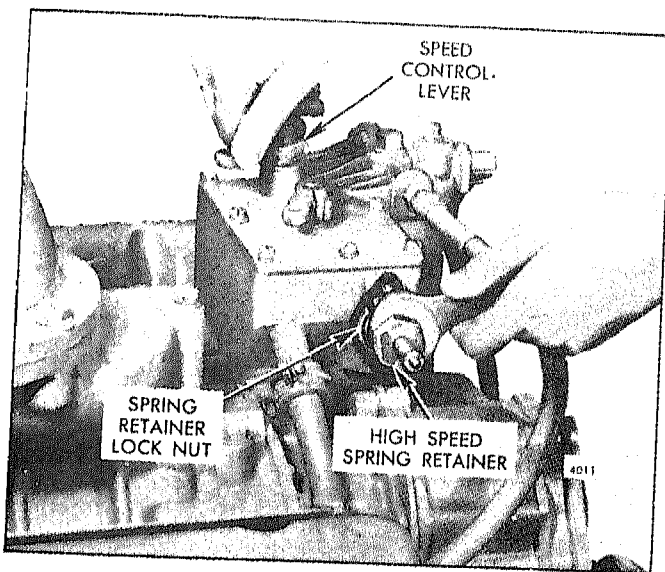

Fig. 6 - Adjusting Maximum No-Load Engine Speed
2. With the engine at operating temperature and no-load on the engine, place the speed control lever in the maximum speed position. Turn the high-speed spring retainer in (Fig. 6) until the engine is operating at the recommended no-load speed. Use an accurate hand tachometer to determine the engine speed. The maximum no-load speed varies with the full-load operating speed.